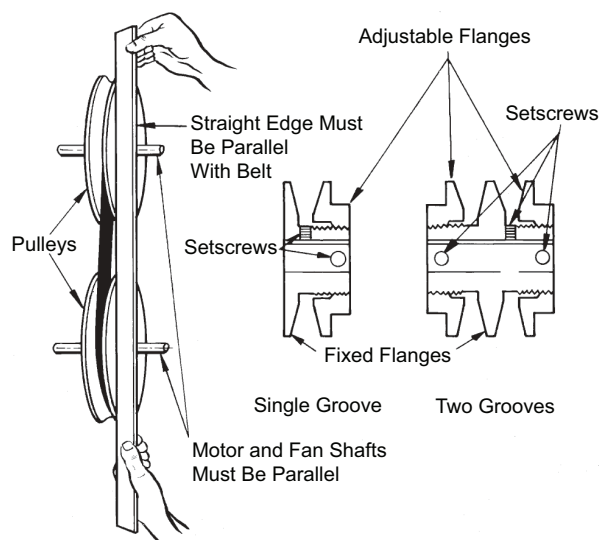

Fig. 42 — Fan Pulley Adjustments
3. Use the methods shown in Fig. 42 to check proper pulley alignment.
2. Loosen setscrew in movable flange of pulley. Screw movable flange toward fixed flange to increase the fan speed and away from fixed flange to reduce speed. Before tightening setscrew, make certain that setscrew is over nearest flat surface of pulley hub. See Fig. 42.